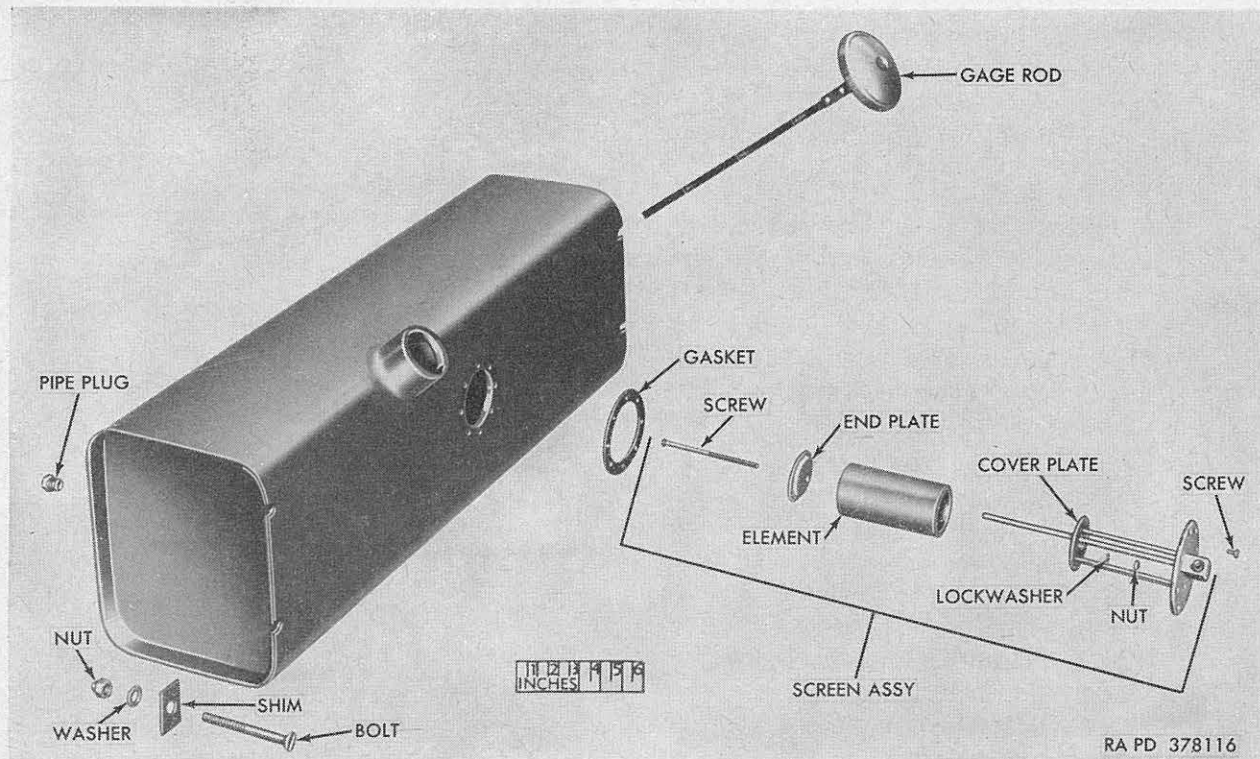

Figure 45. Fuel tank and screen—exploded view.
- (4) Remove eight pan-head integral lockwasher screws (fig. 45) securing fuel screen to top of tank and remove screen and gasket.
- (5) Remove hex nut (fig. 45) and lockwasher from long roundhead screw securing element to outlet cover plate and remove screw, end plate and element from cover plate.
- (1) Position end plate (fig. 45) and new element on cover plate and secure with No. 10-24 x 4 roundhead screw, lockwasher and hex nut.
- (2) Position new gasket (fig. 45) on under side of cover plate and lower screen and gasket into position in top of fuel tank with fuel outlet pointed toward rear of tank. Secure screen to tank with eight 8-32 x  $\frac{3}{8}$  cross-recess-pan-head integral lockwasher screws.
- (5) Replace  $\frac{3}{8}$ -inch hex-head pipe plug (fig. 45) in tank drain.